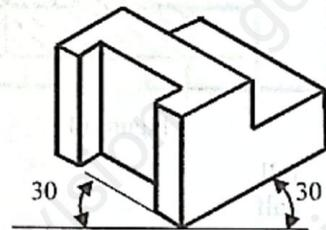

Figure 12
17. Give the name of the projection to which the block in figure 12 below is drawn.